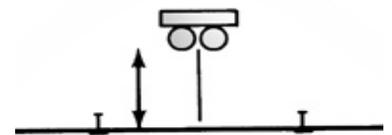

FIG. 5 - Allow a minimum of 6" space between the ceilings if you're using recessed lights.
- a) Determine the exact height at which the suspended ceiling will be installed. Allow a minimum of 3" to 4" clearance between the old ceiling and the new ceiling for installation of the ceiling panels. If clearance is a problem, you may want to use fiberglass ceiling panels, which are more flexible. Additional clearance will be required if you are using recessed lighting (Fig. 5).
- a) If you are going to use recessed lights, install the wiring before putting the suspension wires in place (Fig. 5).